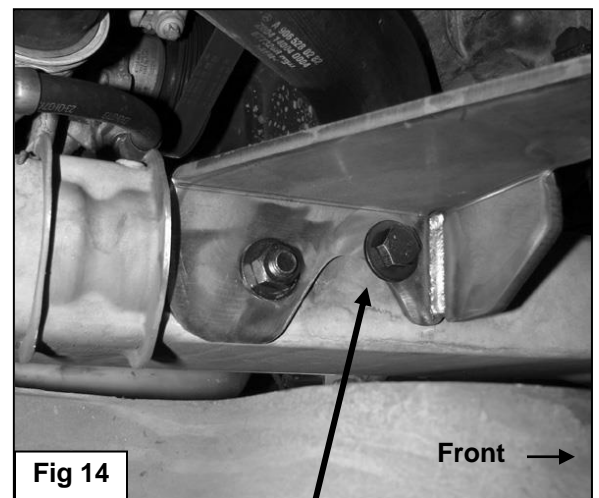

Fig 14
13. Reinsert the driver side Bolt and Nut Plate, **(Step 2)**. Rotate the 12mm Bolt and Nut Plate to line up the threaded nut with the previously drilled 1/2" hole. Reattach the Bracket to the Bolt Plate as described in Step 3. Use the included 12mm x 35mm Hex Bolt, 12mm Lock Washer and 12mm Flat Washer to attach the remaining hole in the Bracket, (and drilled hole in frame), to the 12mm Bolt and Nut Plate, **(Figure 14)**.